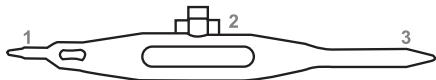

Figure 8
5.1.1 If needle does not retract, insert Tip 2 of Handle Release Tool (**Figure 8**) into hole on right side of case (**Figure 9**). Tip 3 should point towards Retraction Lever. While still inserted, turn and hold Handle Release Tool clockwise with light finger pressure, approximately 5-10 degrees, and gently squeeze the Retraction Lever.
5.2.1 If it is desired to cut the monofilament suture without delivering Urethral End-Piece, Insert Tip 3 of Handle Release Tool (**Figure 8**) into hole on left side of case (**Figure 10**).
5.2.2 If the suture is not fully cut in Step 5.2.1, insert Tip 1 of Handle Release Tool (**Figure 8**) into the groove on the front left side of the case and slide the tool from front to back (**Figure 10**).